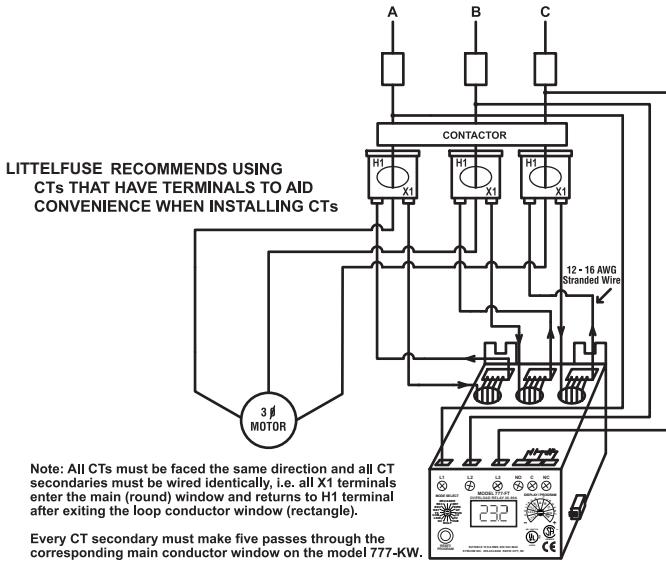

FIGURE 3: TYPICAL WIRING DIAGRAM USING EXTERNAL CTs
- 2.3 For amperages greater than 90 amps, external CT’s (current transformers) are required. SymCom recommends CT’s with terminals be used for ease of installation. All CT secondaries must make five passes through the round holes on the MotorSaver. See Figure 3 for a typical wiring diagram using external CT’s.